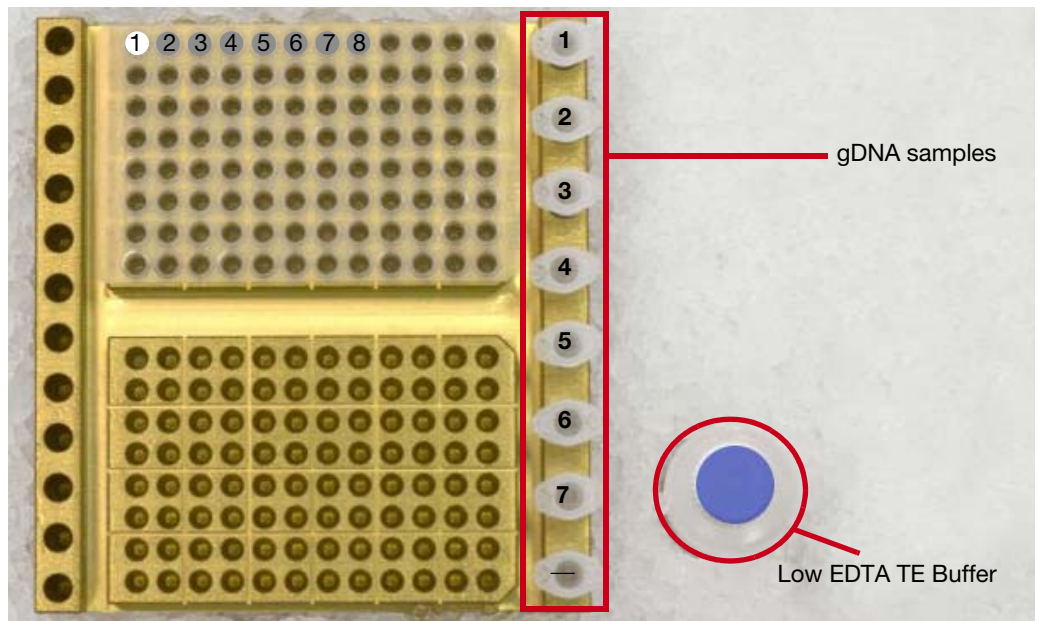

Figure 1 96-well plate in cooling block, on ice
1. Place a 96-well plate in the upper half of the cooling block on ice (Figure 1).